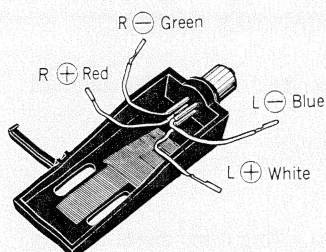

Fig. 4
- \* The polarities and L,R channel of the lead wire of the head shell are shown in Fig. 4. The connection should be done according to the terminal indication of the cartridge.